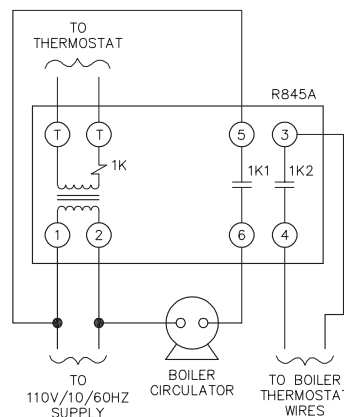

Figure 6.2: Wiring Circulator with R845A Switching Relay
- c) An example of this wiring using a Honeywell R845A relay is shown in Figure 6.2